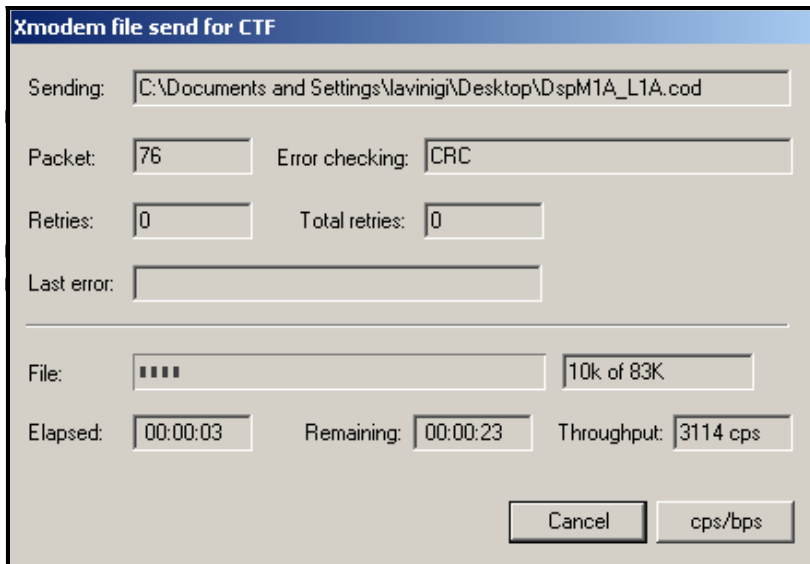

Figure 21: "Xmodem File Send" Window
6. From the protocol drop-down menu, select "Xmodem." The software update now begins as the "Xmodem file send" appears (see Figure 21 below).